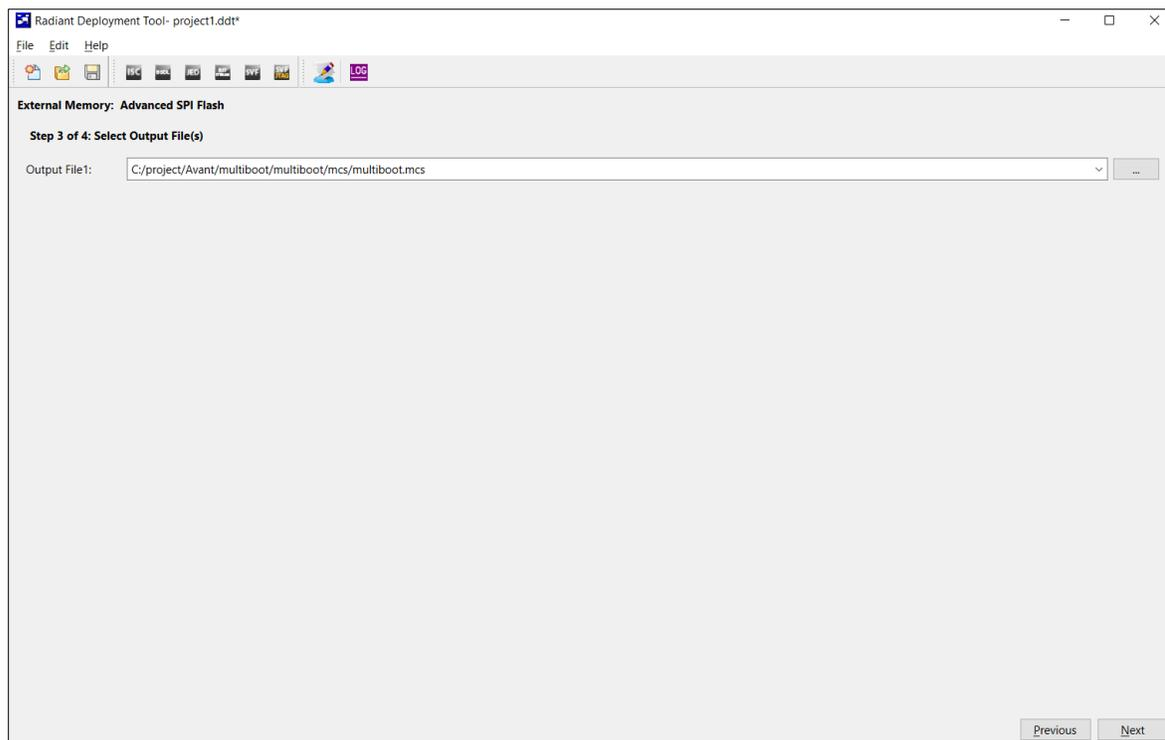

Figure 6.9. Step 3 of 4: Select Output File(s)
- Browse to the location to store the .mcs file in the Output File1 field and click **Next** (Figure 6.9).